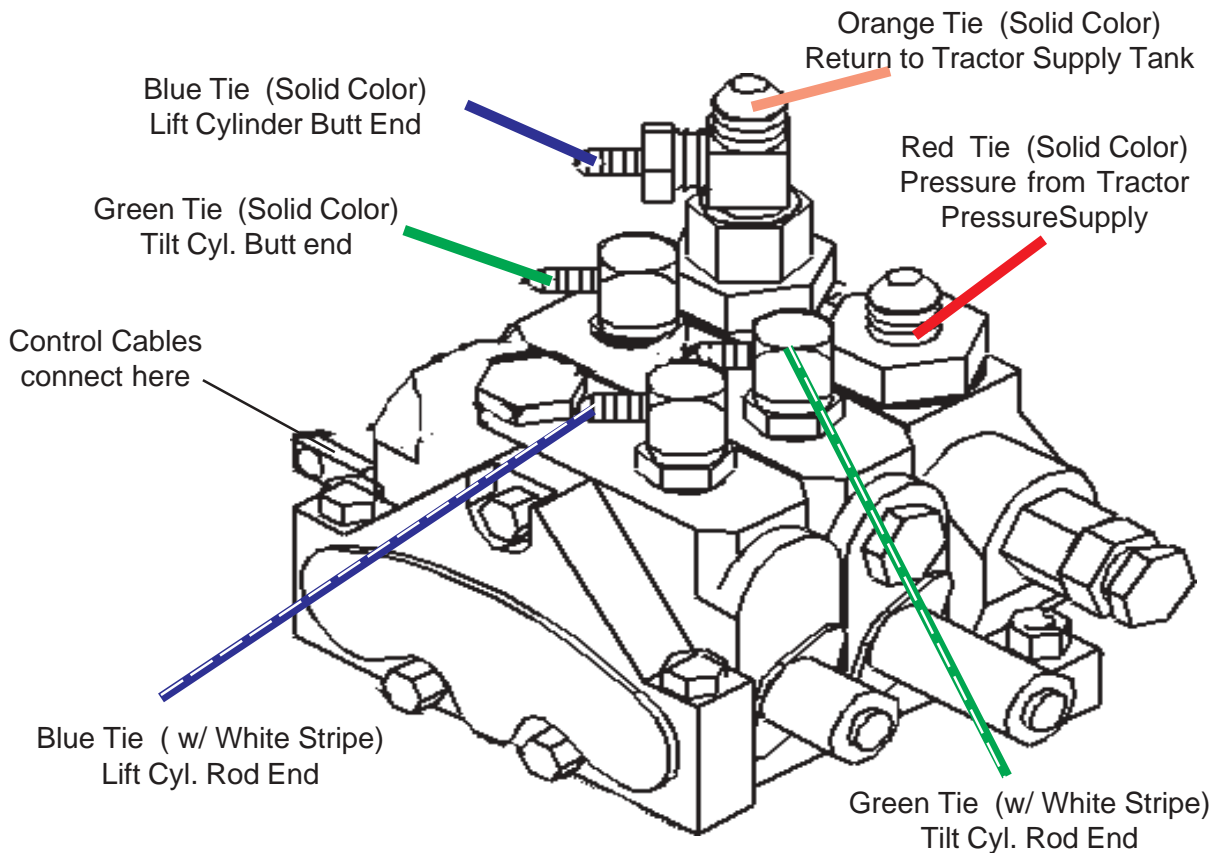

Figure 29
15. Connect the Supply and Return Pressure Hose. There are two hoses that will need to be connected to the tractor control valve (stack Valve) at the rear of the tractor and the head control valve on the frame. The Pressure hose (Red Plastic Tie) will be connected into the spool valve and the return hose (orange Plastic Tie) will be tee'd into the stack valve return hose. (See Figure 29 & 30)